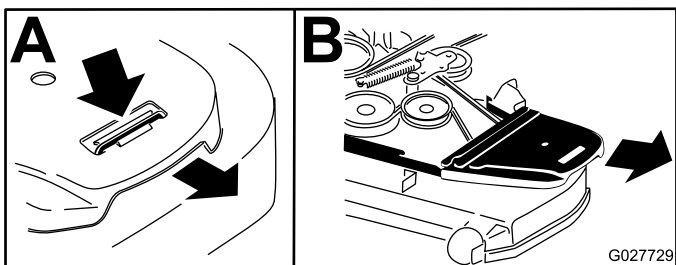

Figure 86
6. Remove the belt covers (Figure 86).